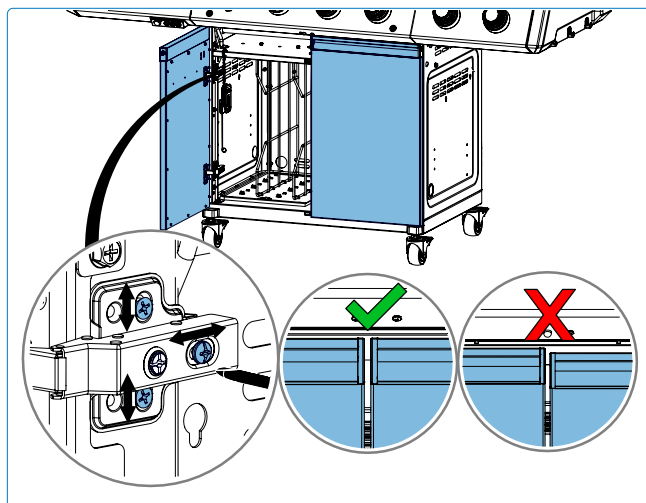

Fig. 17
4. Adjust the hinge screws to align the cabinet doors so they are level with each other (**Fig.17**).